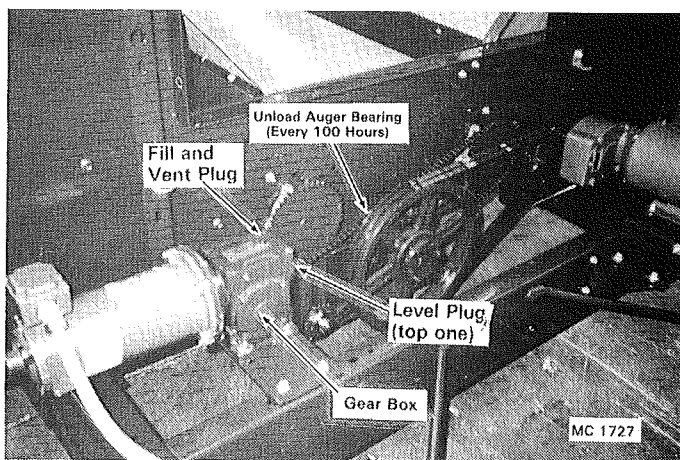

Figure 39
1. Lubricate the unloading auger front bearing. See Figure 39.
1. Remove the oil level plug (top one) on the end of the SCR drive gear box. See Figure 39. The oil level should be even with the bottom of the hole. If not, remove the vent plug on top of the gear box and add Mobil SHC 634 oil or equivalent until it just runs out. Install the level and vent plug.